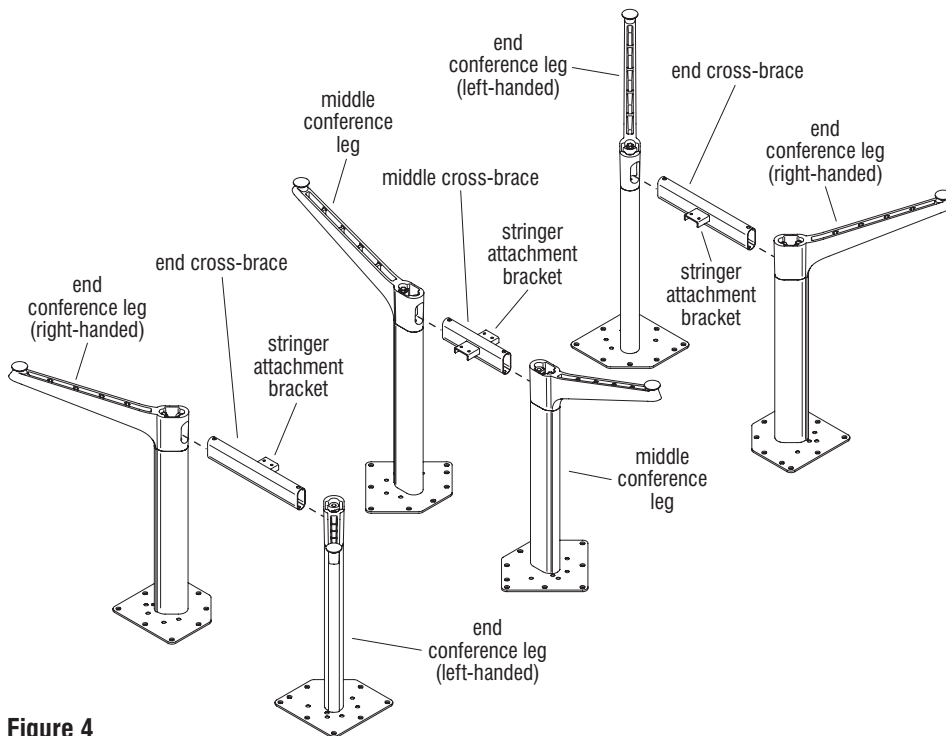

Figure 4
5. Locate an end cross-brace to connect a pair of end conference legs (Figure 4).
6. Position the end cross-brace between the pair of end conference legs and orient the cross-brace so the stringer attachment bracket is pointing toward the center of the table, and the U-shaped portion of the bracket is facing down as illustrated (Figure 4 & Detail C).
holes inside the conference leg and secure together using the previously removed $\frac{5}{16}$ -18 x 5" hex head thread-cutting bolt. Then, at the other side, insert the opposite end of the cross-brace into the cross-brace mounting hole of the opposite leg. Align the mounting holes on the cross-brace with the two mounting holes inside the conference leg and secure together using the previously removed $\frac{5}{16}$ -18 x 5" hex head thread-cutting bolt (Figure 4 & Detail C).
10. Locate a middle cross-brace to connect a pair of middle conference legs (Figure 4).
11. Position the middle cross-brace between a pair of middle conference legs and orient the cross-brace so the U-shaped portion of the brackets point down as illustrated (Figure 4 & Detail D).
12. Insert the middle cross-brace end into the cross-brace mounting hole on the heel of one middle conference leg. Align the mounting holes on the cross-brace with the two mounting holes on the conference leg and secure together using the previously removed $\frac{5}{16}$ -18 x 5" hex head thread-cutting bolt. Then, at the other side, insert the opposite end of the cross-brace into the cross-brace mounting hole on the opposite leg. Align the mounting holes of the cross-brace with the two mounting holes in the conference leg and secure together using the previously removed $\frac{5}{16}$ -18 x 5" hex head thread-cutting bolt (Figure 4 & Detail D).